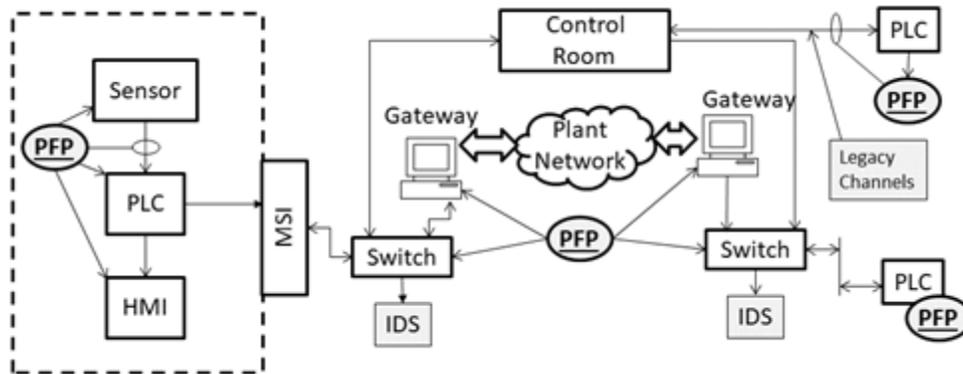

FIG 1. PFP directly monitoring ICS components to detect malicious intrusions
Power Fingerprinting (PFP), uses physical measurements from a side channel (dynamic power behavior) to detect malicious intrusion in critical systems **PFP is a physics based Anomaly Detection System capable of directly monitoring the execution of components, analog sensor signals, digital communications signals and systems components.** PFP is the ideal candidate to perform anomaly detection directly in ICS, from sensors, PLC, HMI, networks, edge computers, etc.. PFP provides an extra layer of protection, bridges coverage gaps and is complementary to traditional IDS approaches, as shown in FIG. 1.
In FIG 1, PFP monitors are shown monitoring the execution of devices in the safety critical zone as well as outside of it. The PFP monitors are deployed in coordination with traditional cyber security solutions, such as anti-virus (AV) and IDS, to provide a comprehensive defense-in-depth for critical systems.